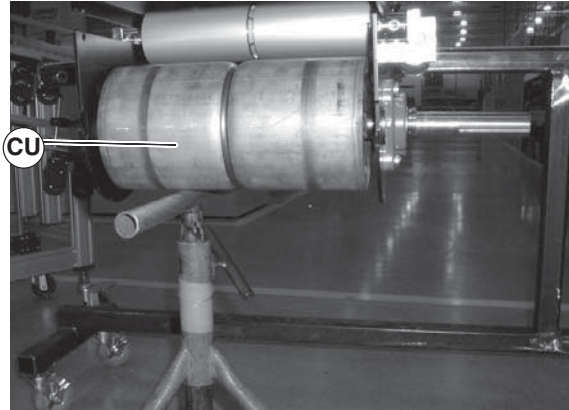

Figure 80
- Temporarily support the drive pulley (Figure 80, item CU).